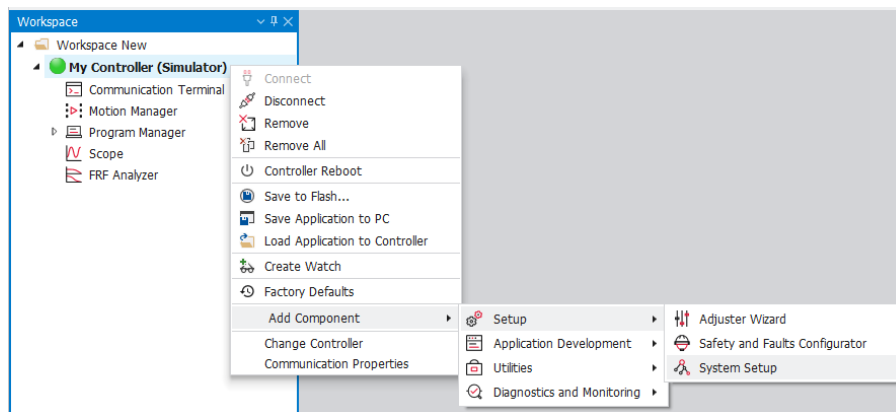
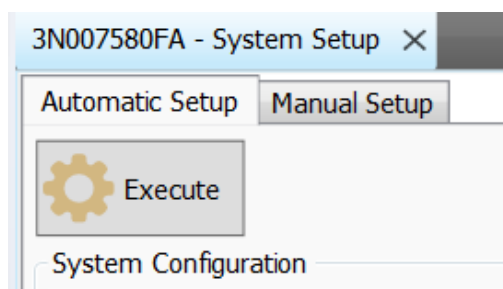

Figure 5-1. Right-Click on the Connected Controller
Figure 5-2. Execute Automatic Setup
1. In the Workspace panel, right-click on the connected controller (see Figure 5-1), then navigate to **Add Component > Setup > System Setup**. This opens the **System Setup** window (see Figure 5-2).
2. In the **Automatic Setup** tab, click **Execute** (Figure 5-2), and wait for the controller to scan the network and reboot. This may take several minutes.